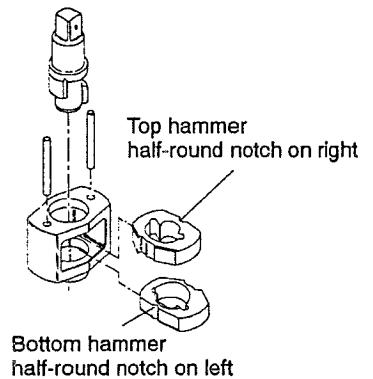

Figure 18
4. Replace the Hammer Pins (13).
5. Examine the base of the Anvil (8) and note its contour. While looking down through the Hammer Frame, swing the top Hammer to its full extreme one way or another until you can match the contour of the Anvil. Enter the Anvil into the Hammer Frame and through the first Hammer. Swing the bottom Hammer in the opposite direction from the top Hammer and maneuver the Anvil slightly until it drops into the bottom Hammer. See Figure 18.